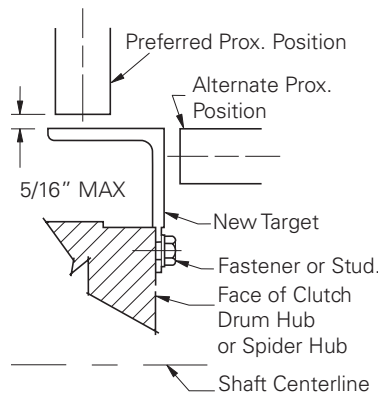
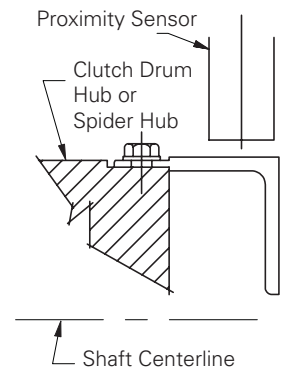

Figure 1
Figure 2
- 3.3.4 Orientation of the target is dependent upon ease of drilling and tapping of the hubs to accept the fasteners. Recommended position is similar to that shown in Figure 1, to allow for ease of clutch maintenance without disturbing the position of the proximity sensors. Target orientation shown in Figure 2 allows for radial fastener installation in the event that axial clearance is limited. Ensure that the target location will not interfere with guarding or adjoining bearing housings., etc. that may damage the target during operation.